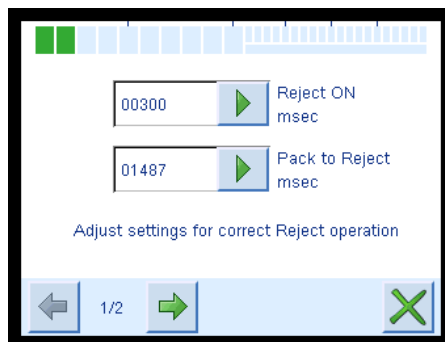

Figure 85:
1. When requested, pass the product through the detector with the test sample at the rear. After several seconds, the Reject On time and Pack To Reject screen will appear, Figure 85.